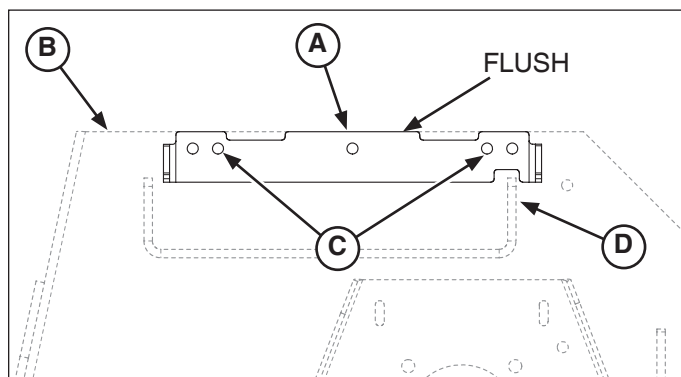

Figure 2. Installing the Bagger Mount Bracket (Walk-Behind Mowers)
1. Align the bagger mount bracket (A, Figure 2) flush with the edge of the mower deck (B) above the discharge opening. Position the bagger mount bracket so that the leg of the discharge chute bracket (D) fits into the notch in the bagger mount bracket.
3. Using the bracket as a guide, drill two (2) .328" holes (**C**, **Figures 2 & 3**) through the mower deck.